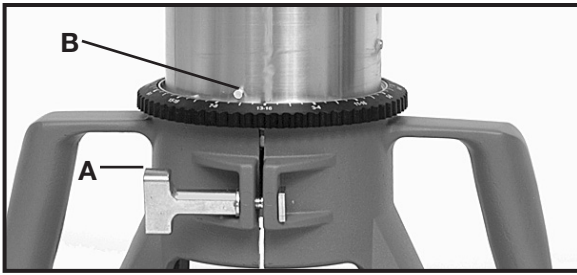
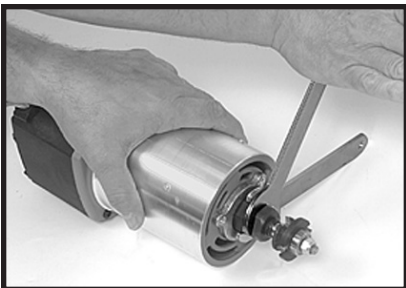

Fig. 1
Fig. 2
- Loosen clamp screw (A) Fig. 1.
- While holding base, turn motor unit COUNTERCLOCKWISE until lower pin (B) in motor housing is disengaged from groove in base.
- Place one wrench on flats on chuck with the opposite end of the wrench resting on the bench to your left, Fig. 2.
- Place other wrench on collet and tighten COUNTERCLOCKWISE as shown in Fig. 2. TIGHTEN FIRMLY.
2. Loosen the clamp screw (A) Fig. 1 to allow the power unit to be set in the base unit.
3. Insert motor unit into base aligning lower pin (B) with groove in base.